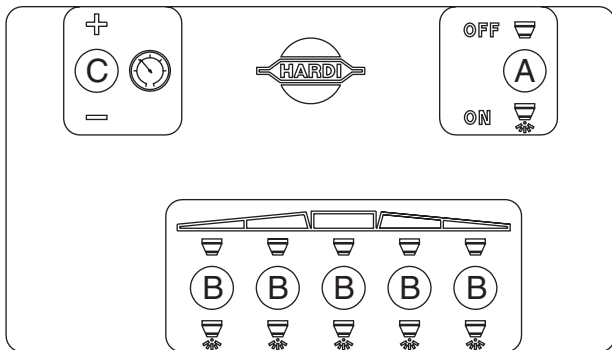
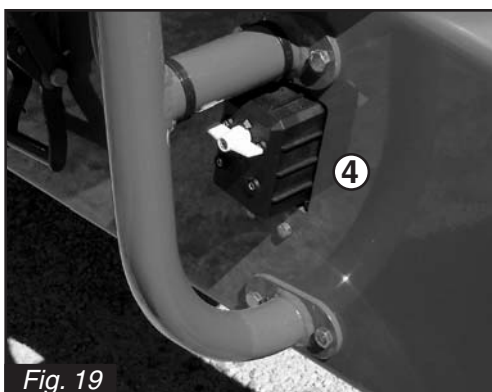

Fig 17
Fig. 19
3. On-off switch (A Fig 17) is "ON" against green symbol (down position).
4. All distribution valve switches (B Fig 17) are also "ON" against green symbol (down position).
5. Hold pressure regulating switch (C Fig 17) down (-) until handle on pressure control valve (4 Fig 19) stops rotating. This will be the "minimum pressure" setting.
6. Hold pressure regulating switch (C Fig 17) up (+) until desired pressure is shown on the boom pressure gauge.
1. Shut-off the first boom distribution valve switch (B Fig 17).
3. Turn the first boom distribution valve switch (B Fig 17) back on.
In order to shut off the entire boom, flip on-off switch (A Fig 17) to the "OFF" (red) symbol (up position). This returns all the pump outputs to the main tank through the return system. The diaphragm anti-drip valves ensure instantaneous closing of all nozzles.
In order to shut off one or more sections of the boom, switch one or more unneeded boom section valves (B Fig 17) to off position. The constant pressure system ensures that the pressure does not increase in the sections which are still open.